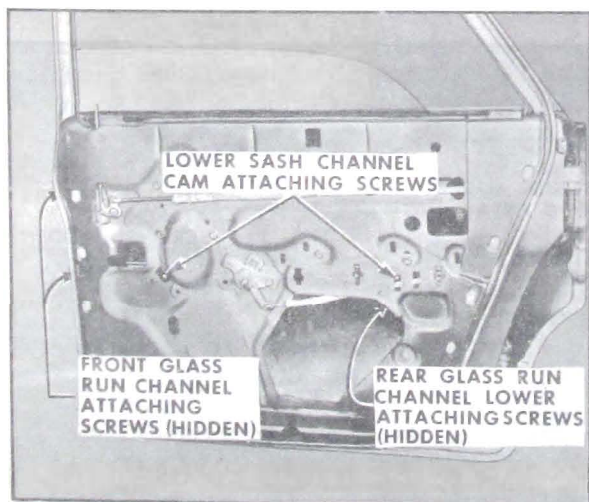

Figure 2-34—Rear Door Assembly - "69" Styles
2. On "69" styles, through large access hole, remove screw securing lower end of glass run channel at door lock pillar and raise end of channel to expose lock assembly. (See Figure 2-34)
3. On "69" styles, through large access hole remove screw securing lower end of glass run channel at door lock pillar to gain access to spring clip securing rod to lock. (See Figure 2-34)
3. On "69" styles, through large access hole, remove glass run channel lower attaching screw at lock pillar to gain access to spring clip securing rod to lock. (See Figure 2-34)